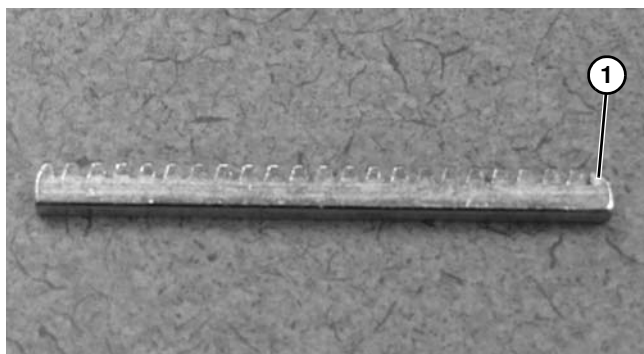

Figure 96
Make sure the bent end (**Figure 96, item 1**) of the gear rack is NOT assembled into the conveyor frame.